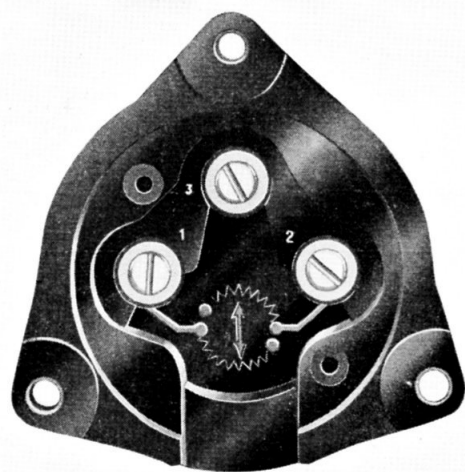

Fig. 3. Terminal connections
6. The terminals are at the base of the switch, the terminal cover being held in place by two small screws. Fig. 3, giving the correct terminal connections for wiring up, shows that the Type R is interchangeable with previous types of dimmer switches, the base being of the same triangular form with identical fixing centres. When a new switch is installed, P.I.C. No. 2 should be pressed round the cable entry, as a weatherproofing measure.